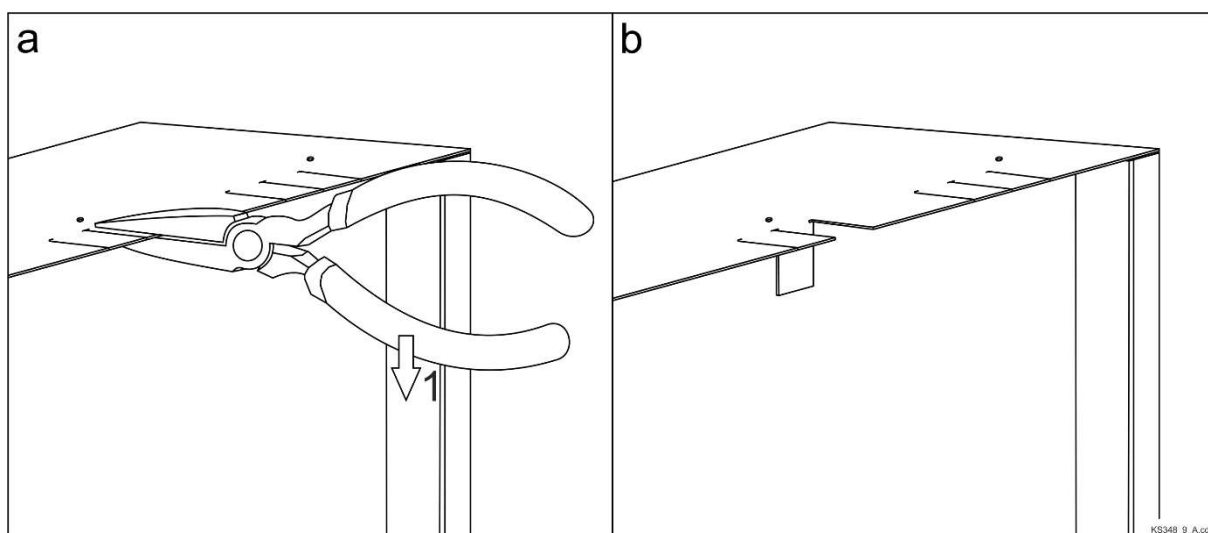

Fig. 4 Forming a cable entry hole in the bottom or top wall of the enclosure
11. To introduce cables beneath the enclosure from the upper or lower wall of the enclosure, form the cable holes as indicated in Fig. 4.